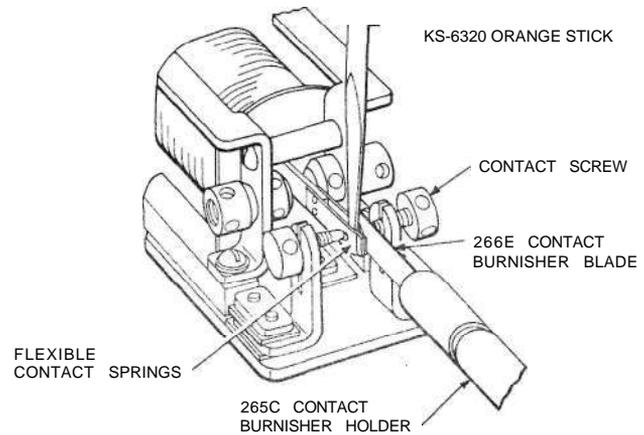

Fig. 39—Method of Burnishing Contacts on 206-, 209-, 215-, 231-, 239-, 255-, and 280-Type Relays
Contacts: Examine the contacts to determine whether filing is necessary on both armature and stationary contacts or on only one or the other. If both contacts require filing, insert the KS-2662 or KS-2663 file horizontally between the armature and the stationary contact as shown for the burnisher in Fig. 39. Place the flattened point of the KS-6320 orange stick between the flexible contact springs and hold the spring against the file so the file is held between the armature and the associated contact screw. File both contacts in this manner until the pits and buildups are entirely removed from both the contacts. While filing, take care to hold the file parallel to the armature. Take care not to remove contact metal unnecessarily. If, after the pit has been removed from one contact, the other contact requires additional filing or if only one contact is to be reconditioned, file this contact separately. In the case of armature contacts, use the orange stick as a stop. After the pits or buildups have been removed from both contacts, burnish the contacts as described in 6.02 and then clean them by the brush, wiping, or spray methods as covered in Part 4. Do not in any case attempt to produce a rounded surface on the stationary contacts.
6.02 *Burnishing Contacts:* Insert a clean 266E blade (see 3.01) in the 265C contact burnisher holder with the wide end outward. Insert the blade horizontally between the armature and the stationary contacts as shown in Fig. 39. Place the flattened end of the KS-6320 orange stick between the flexible contact springs and hold the flexible contact spring against the burnisher, as shown in the figure. Burnish the contacts by moving the burnisher back and forth. While burnishing, take care to hold the burnisher parallel to the armature.